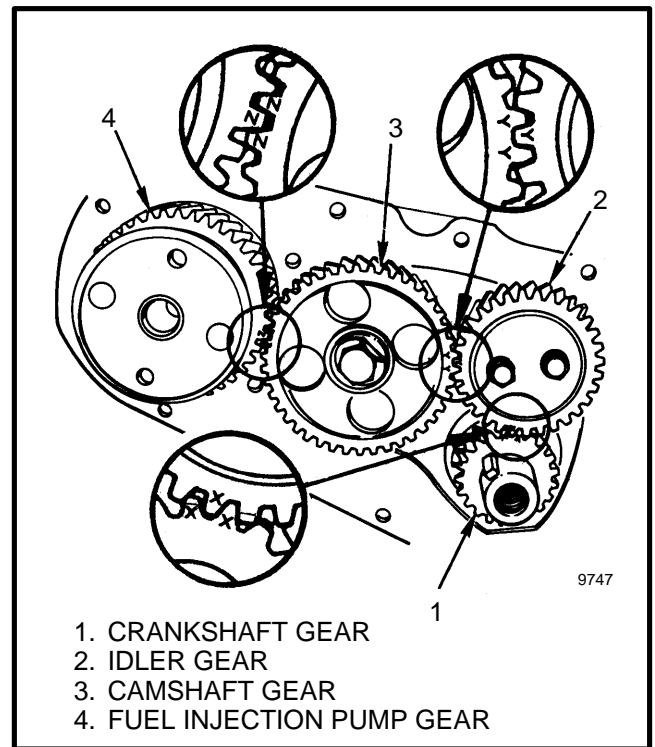

FIGURE 26. TIMING GEARS, ALIGNMENT
3. Install the smaller idler gear (2). Align the mark **XX** on the crankshaft gear and the mark **X** on the idler gear as shown in FIGURE 26. Install the retainer for the idler gear so that the side with the chamfer is away from the gear. Tighten the two capscrews to a torque of 26 N.m (19 lbf ft).